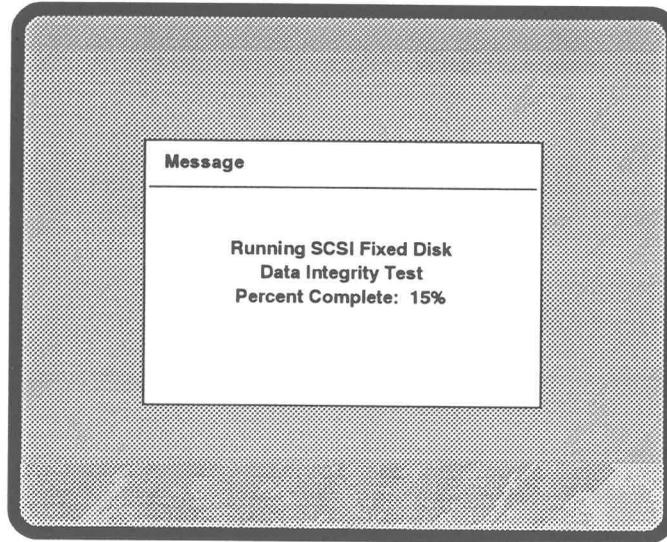

Figure 5-15 SCSI Hard Disk Test in Progress
4. You can monitor test progress by observing the display. See Figure 5-15 for a sample of the SCSI Hard Disk Test progress information.